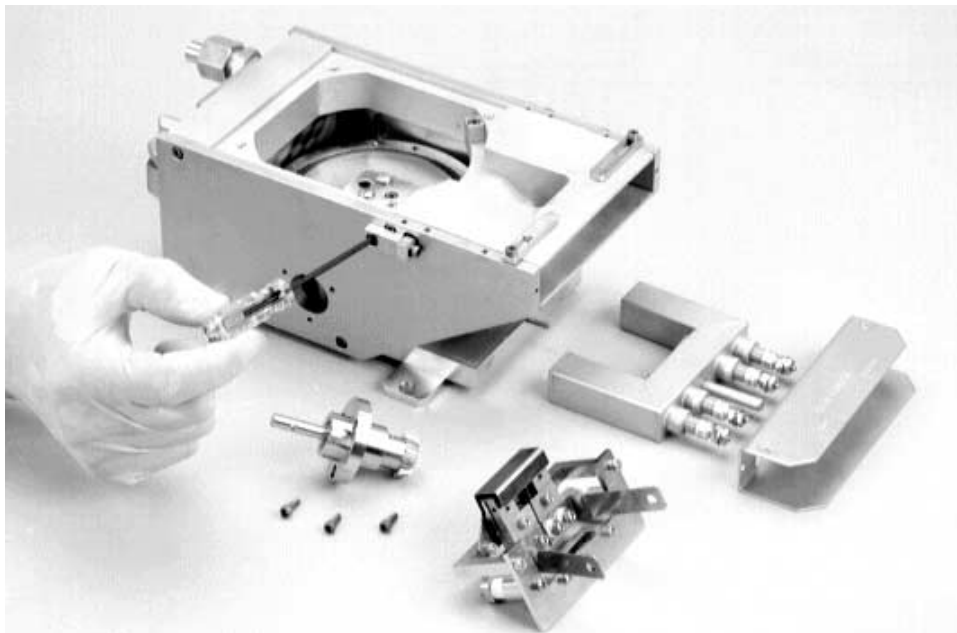

Figure 5-9. Removing the screw securing the left-hand internal pole-piece extension to the pole piece
Step 9: Remove the screw that secures the internal pole piece extension assembly to the left-hand pole piece, as shown in Figure 5-9.